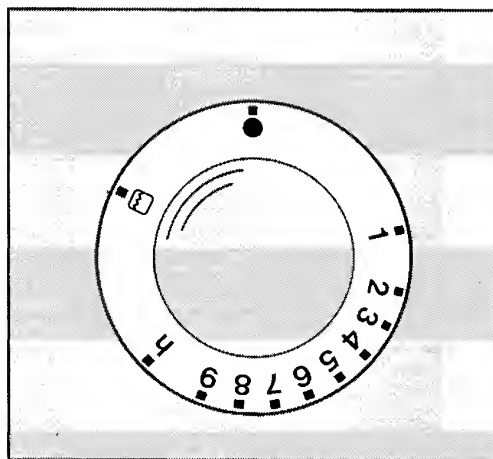

fig. 2
2. Firmly depress the oven control knob (Fig. 2) and turn it anticlockwise to the maximum setting and at the same time push in the relevant pushbutton marked by a small electric spark. Keep the oven control knob depressed for 10-15 secs.